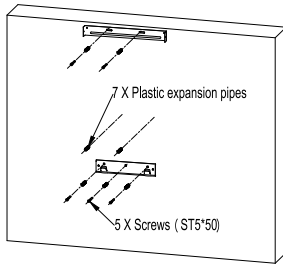

Fig.2
- Fix installation plate and extension chimney installation plate, install the plastic expansion pipes of chimney installation plate on wall. See Fig.2.